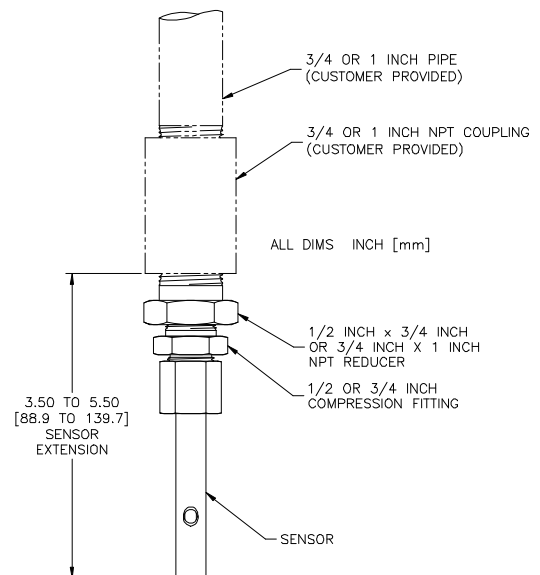

FIGURE 2-4
1. Reverse the compression fitting assembly on the sensor so that the longer threaded section faces towards the sensor cable end (see Figure 2-4).